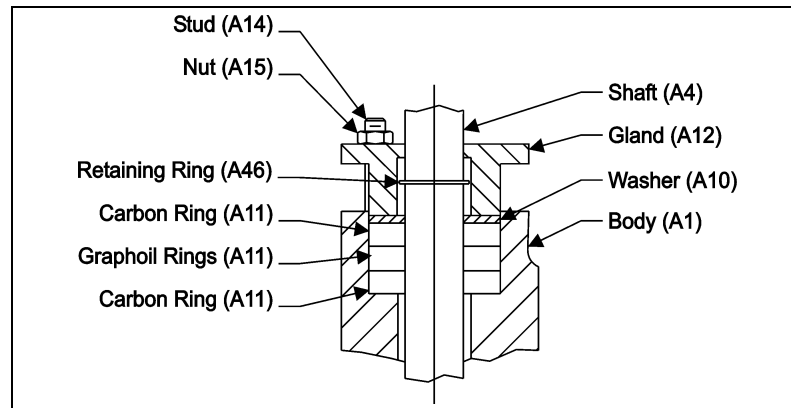

Figure 2 — Packing Option (G1)
- Place the packing in the body, one ring at a time, in the configuration shown in Figure 2 — do not lubricate.